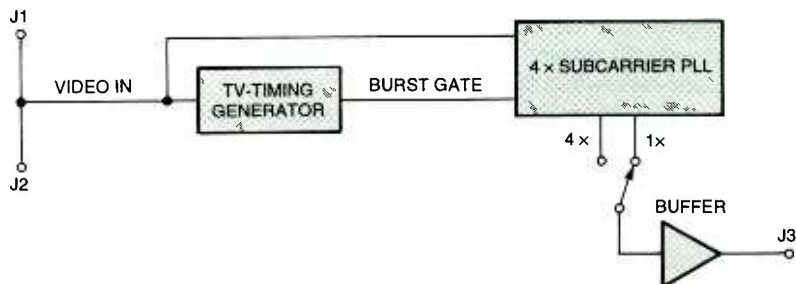

Fig. 2. To turn a colorburst reference into a continuous signal, a phase-locked loop is used to sustain the signal until the next time it is broadcast.
The heart of the Colorburst-Calibration Reference, as shown in the Fig. 2 block diagram, is a phase-locked loop that locks onto the color burst and creates that continuous subcarrier signal. Because of the nature of how a phase-locked loop works, it is a simple matter to have the unit deliver a standard 3.58-MHz frequency or to multiply it to four times the subcarrier, or 14.318 Mhz.
**How It Works.** The Colorburst-Calibration Reference's design, according to Fig. 2, is broken into two sections: the TV-timing generator and the subcarrier phase-locked loop (PLL). The timing generator generates a gate signal that tells the PLL when to sample the colorburst signal. The PLL portion of the circuit actually samples the colorburst and creates the 4 times (4X) subcarrier output. It then divides that frequency by four to create the subcarrier-reference output at the original frequency.